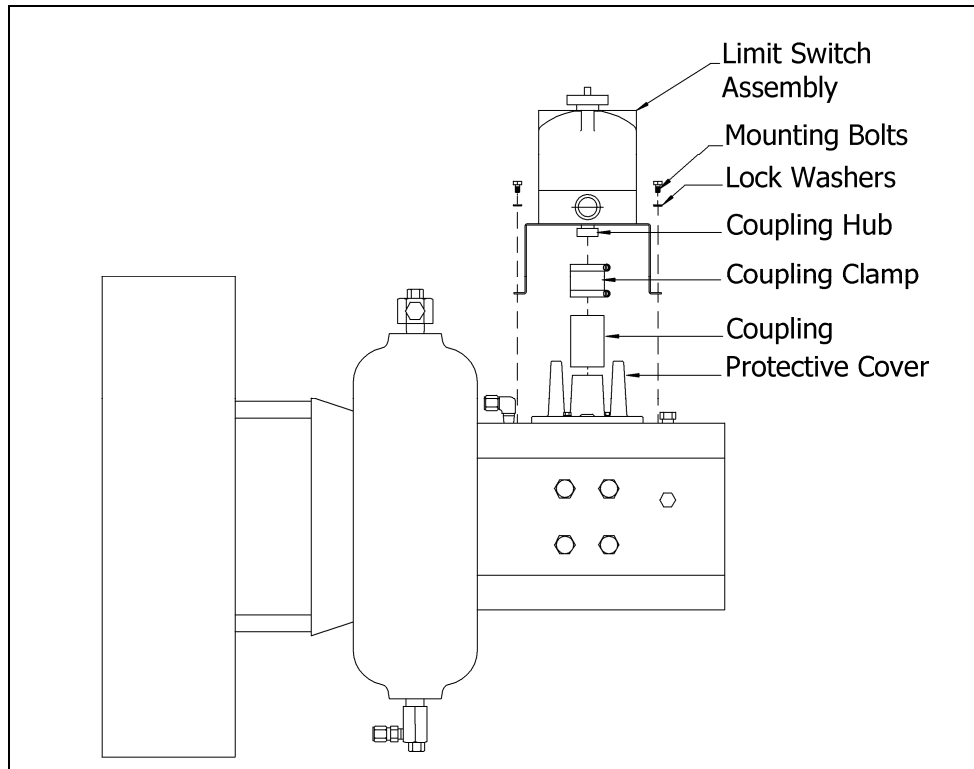

Figure 5: Installing Limit Switch Assembly
11. Slide the Limit Switch Drive Coupling over the center post on the Protective Cover. (see figure 5)